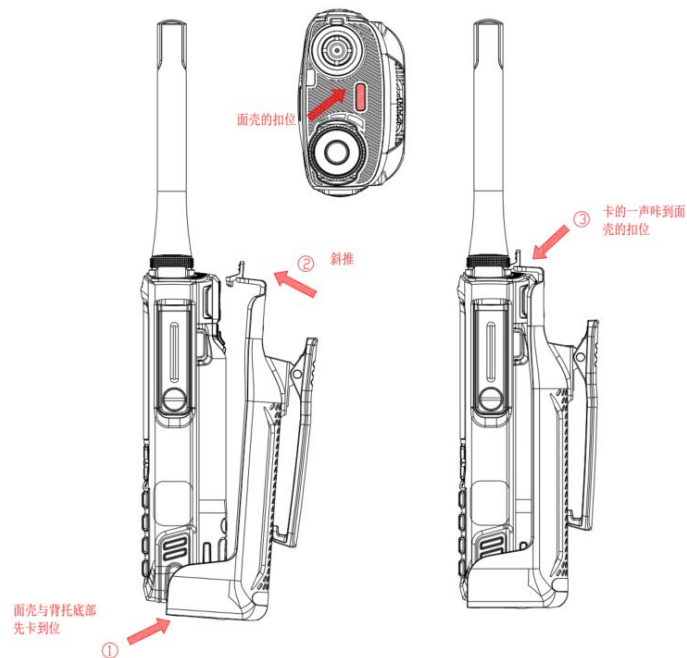

Figure 8.2 Schematic diagram of cradle clip mounting and dismounting
- Once the cradle clip is assembled in the manner described in Figure 8.2, the radio is in a reliable mounting condition.